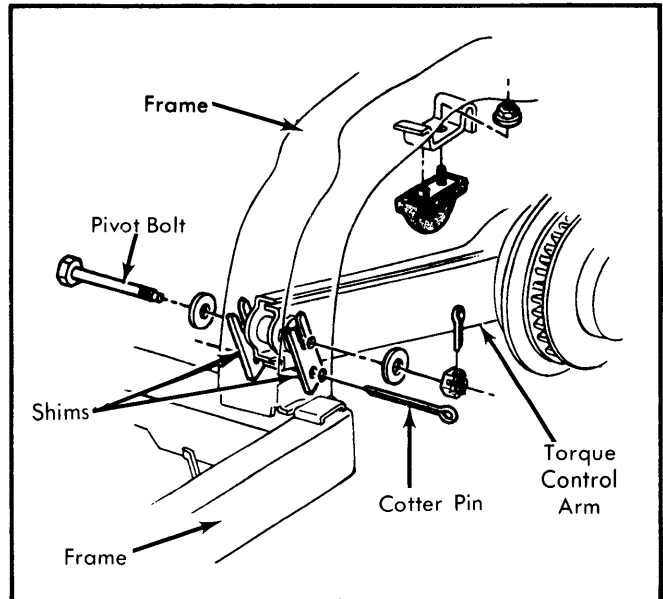

Fig. 30 Rear Suspension Toe-in Shims (Corvette)
2) Shims are slotted to slide over bushing pivot bolt on either side. To adjust, loosen pivot bolt, remove cotter pin retaining shims, and remove shims. Position torque control arm to obtain specified toe-in. Shim the gap toward vehicle centerline between torque control arm bushing and frame side inner wall. See Fig. 30.
3) Shim outboard gap as necessary to obtain solid stack-up between control arm and inner wall of frame side member. Then install cotter pin (loop outboard) through the shims. See Fig. 30. Tighten pivot bolt to 50 ft. lbs.